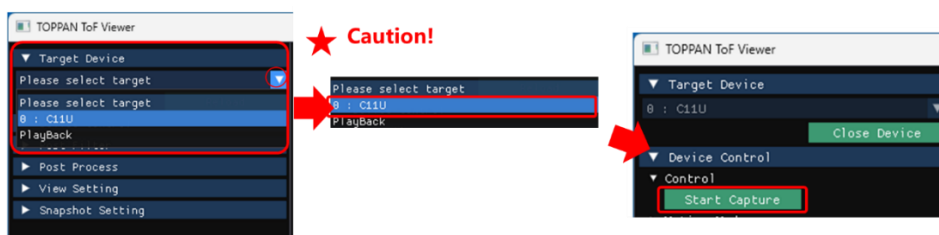

Figure 13. From Device Selection to "Start Capture"
Refer to *Figure 13*, start the TOPPAN ToF Viewer, and select "C11U" from "Target Device" in the left menu.
- When initial selecting a camera device after launching this application (See ★ Figure 13), the VCSEL